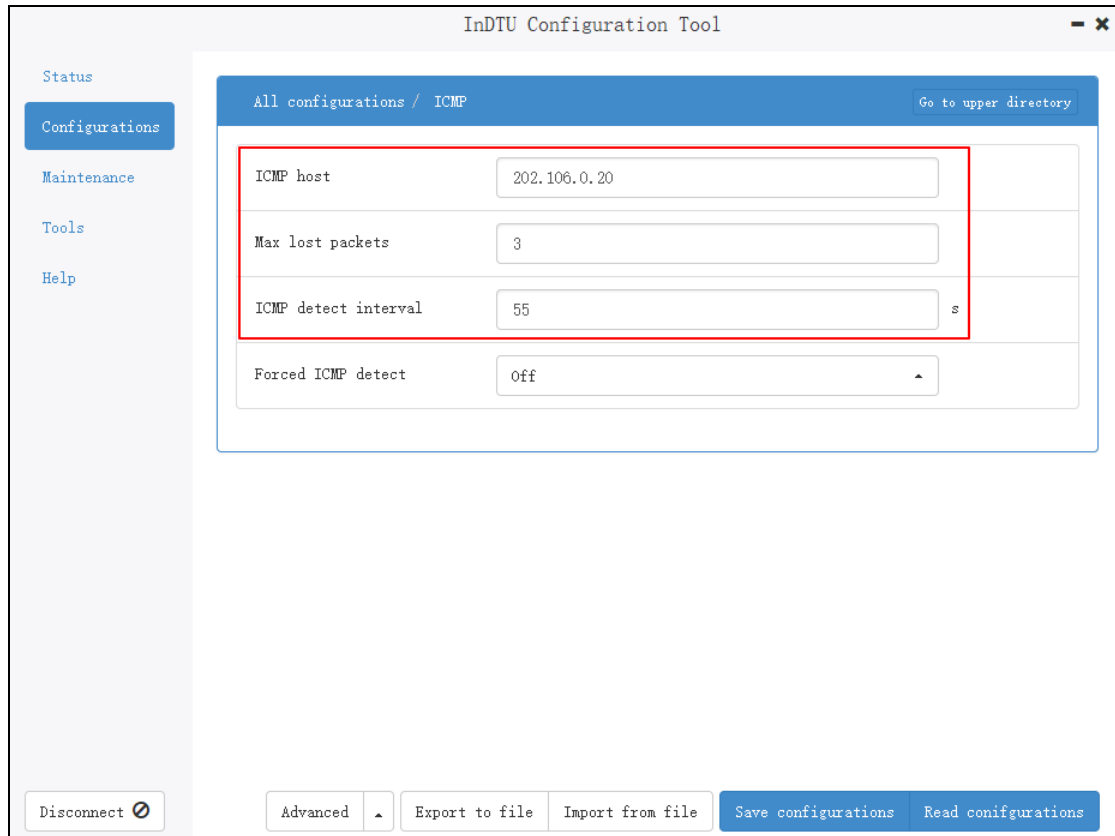

Figure 5-14 ICMP setting
Step 3: Choose “configurations >> ICMP”, set the ICMP three options. Figure 5-14 shows a configuration example. Enable ICMP to keep-alive the wireless communication link.